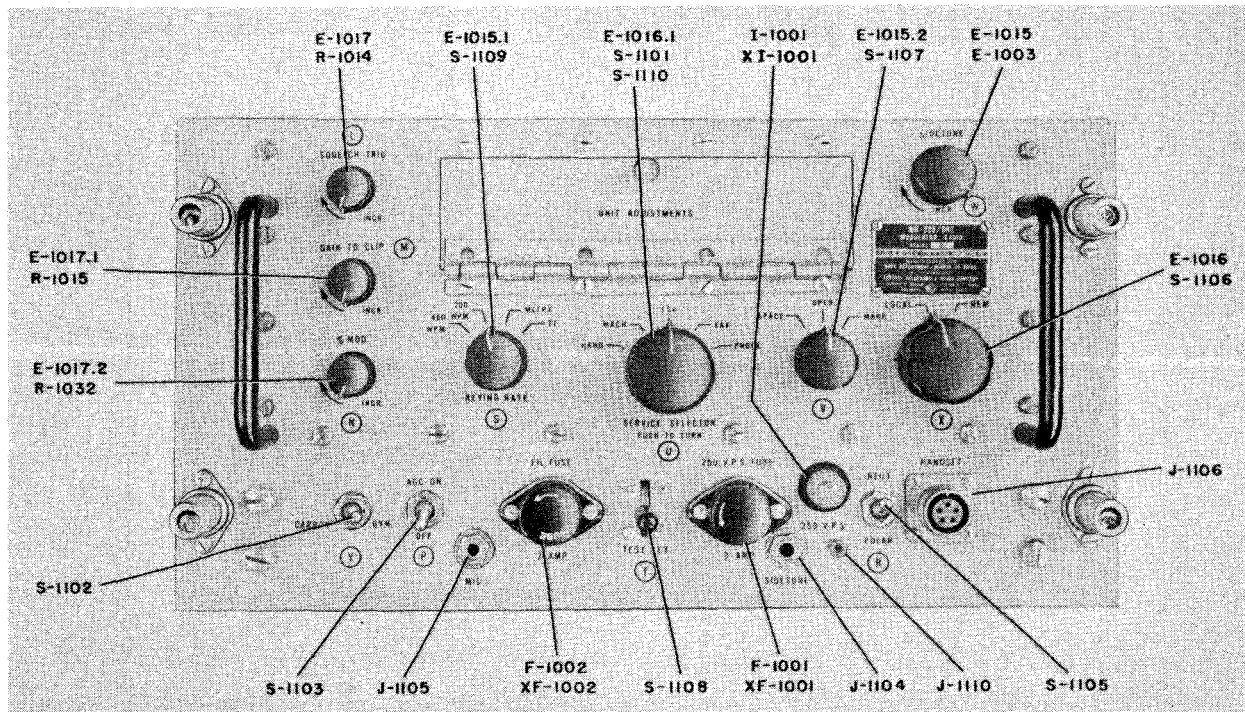

Figure 7-62. Radio Modulator MD-229/SRT (LLRM), Front Panel
Step 1. Place the equipment in stand-by condition, switch (P) in STANDBY.
Step 2. Connect meter (ME-25A/U, or equivalent) to either the 250 V.P.S. test jack provided on the LLRM front panel (J-1110), figure 7-62, or at the RFO test point socket, E-2919 (on the left side of the RFO drawer; see figure 7-6).
2. -12-VOLT SUPPLY.—There are no electrical adjustments for the -12-volt supply. The output of this supply may be checked by connecting a meter (ME-25A/U, or equivalent) between pin D of HANDSET jack J-1106 (on LLRM front panel, figure 7-62) and chassis ground.